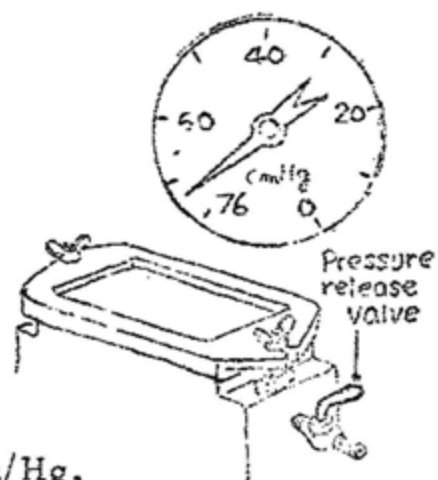

fig. 6
- 3) Confirm pressure release valve is closed. See fig.6 p.5.
- 6) After clay becomes a normal cylindrical shape, please confirm 65-73 cm/Hg in the pressure gauge. See fig. 6.
2. Open pressure release valve, then after confirming pressure gauge reads 0 in the scale, close pressure release valve. See fig. 6. When pugmill is not operated, please confirm 0 in the scale.